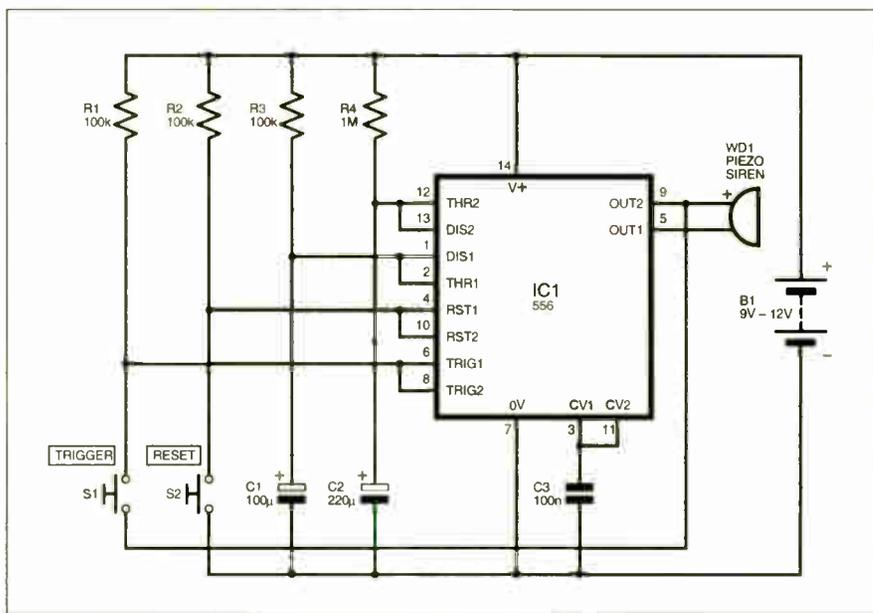
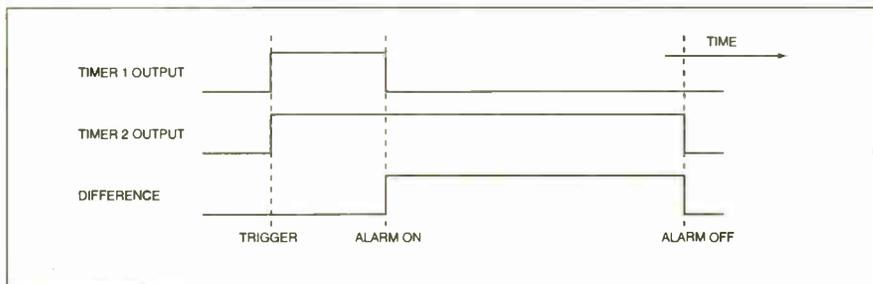

Fig.1. Circuit diagram for the Smart Alarm Timer.
Fig.2. Circuit timing diagram.
**W**HEN designing a timing circuit for a security alarm, one often has to face a compromise between functionality and circuit complexity. The Smart Alarm Timer circuit described in Fig.1, however, is a complete solution featuring an entry delay, a finite alarm time and protection against multiple triggering.
It utilises a standard 556 dual timer i.c. configured as two separate monostables, one with a much shorter time period than the other. The trigger inputs are tied together to give the timing diagram shown in Fig.2.
It can be seen from Fig.2 that the potential difference between the two timer outputs is similar to the alarm signal required. Since the output stages of the 556 are capable of both sourcing and sinking current, a piezo siren WD1 (see Fig.1) can be connected simply between the two timer outputs, pins 5 and 9. Although the drive capacity is limited to 200mA, very loud multi-element piezo sirens are available which consume in the region of only 40mA.